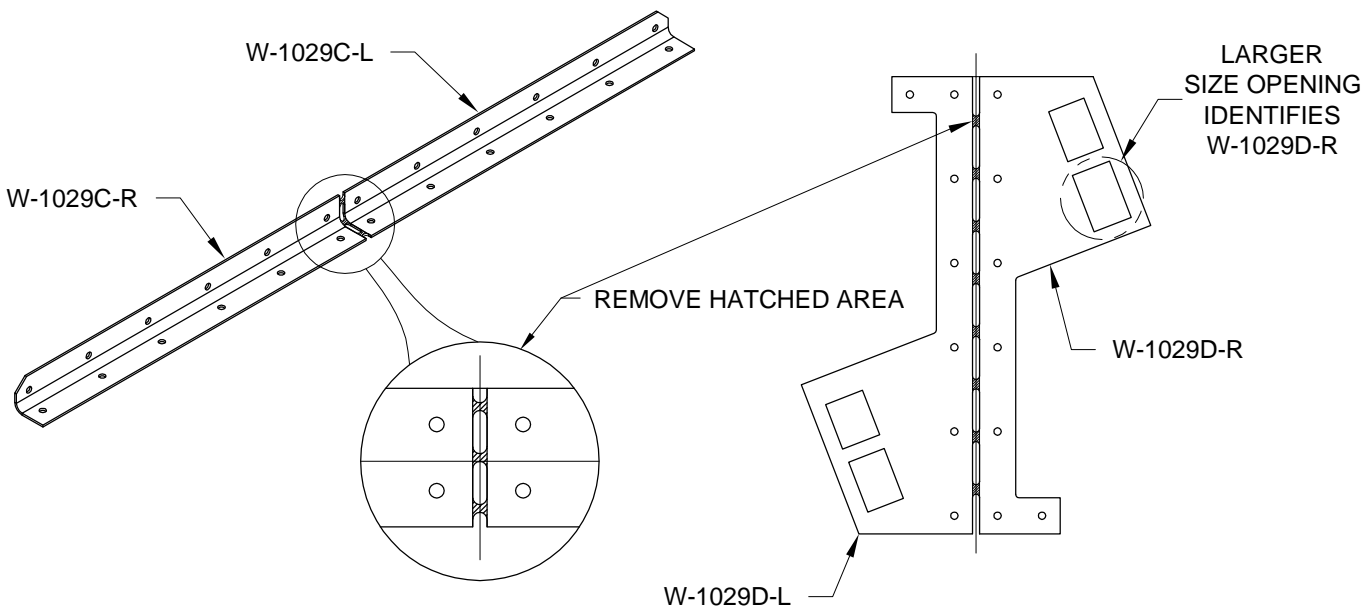

FIGURE 2: SEPARATING THE W-1029C ANGLES AND THE W-1029D SPACERS
Step 4: Separate the W-1029C Angles and W-1029D Spacers as shown in Figure 2.